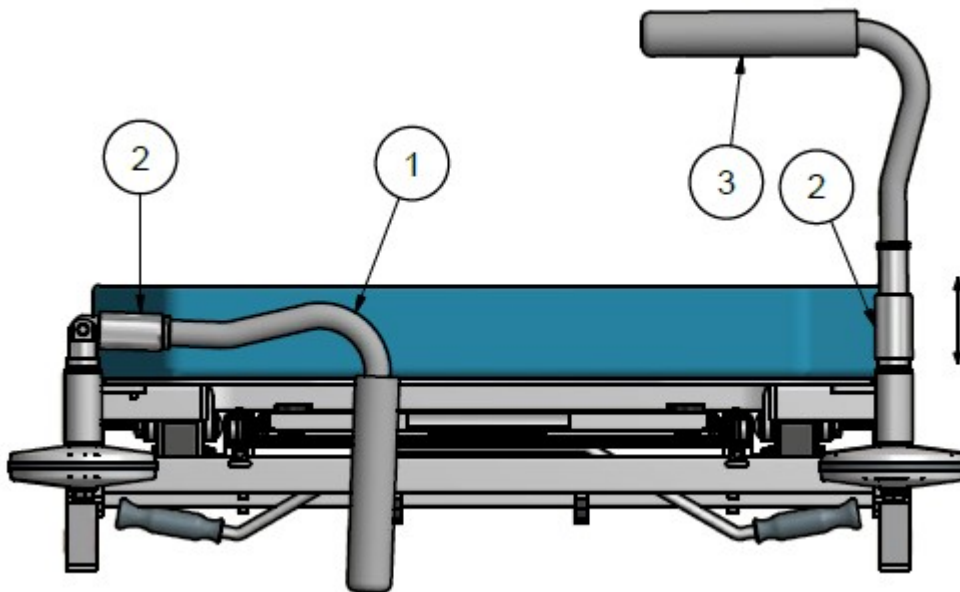

Fig. 6
B. The foldable head, shown in Figure 6. The folding head consists of two handles folding down to below the mattress line. The handle consists of a metal tube ending with a polyurethane handle.
To fold the handle, push the lock (2), Fig. 6, upwards as far as possible and fold the handle down below the mattress line.